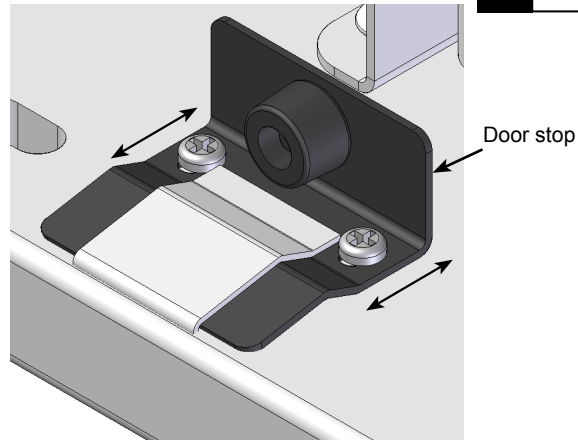

Figure 7
1. To reposition the stop, loosen the Phillips screws slightly with a screwdriver. **Figure 7.**